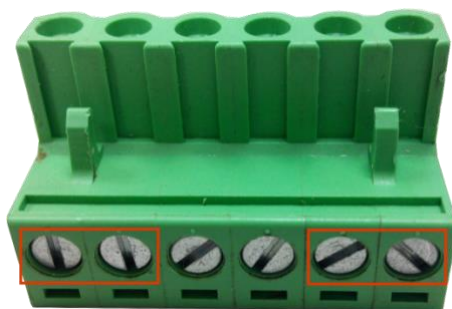

Figure 2.4: Power Terminal Block
Step 2 Tighten the wire-clamp screws to prevent the wires from loosening, as shown below in Figure 2.4.